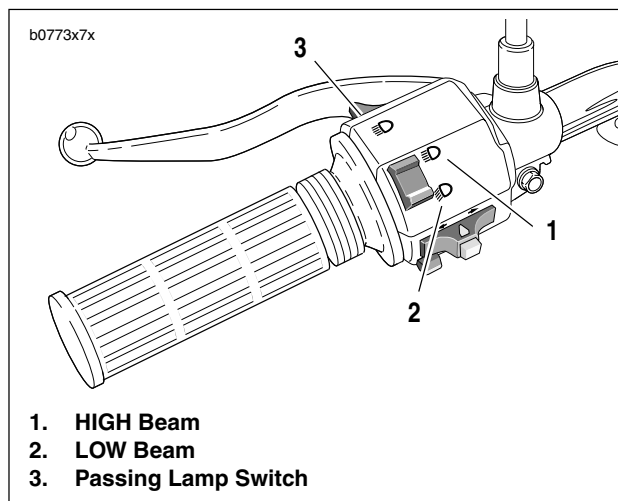

Figure 7-39. Headlamp Controls
- b. See Figure 7-39. Check headlamp LOW (2) and HIGH beam (1) settings.
- c. Set headlamp to LOW beam (2). Press passing lamp switch (3). Headlamp should flash HIGH beam for as long as the switch is pressed.